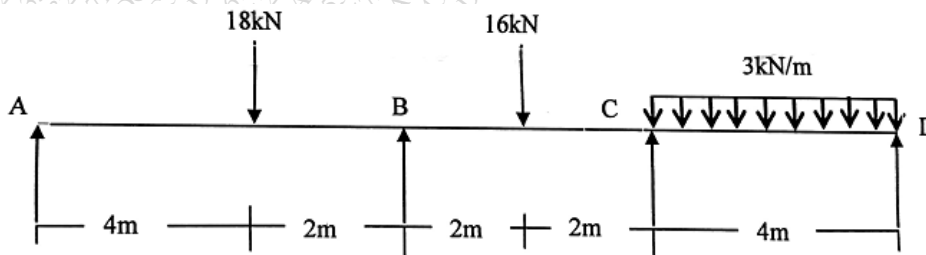

Fig.6
Q.7 Analyse the continuous beam as shown in figure 6. Find the moments along the beam and support reactions. Also draw BMD. 15
Q.7 A train of a wheel load as shown in fig.6 crosses a simply supported beam of span 40m from left to right with point loading. Using influence line diagram, determine the maximum bending moment under central load. 13